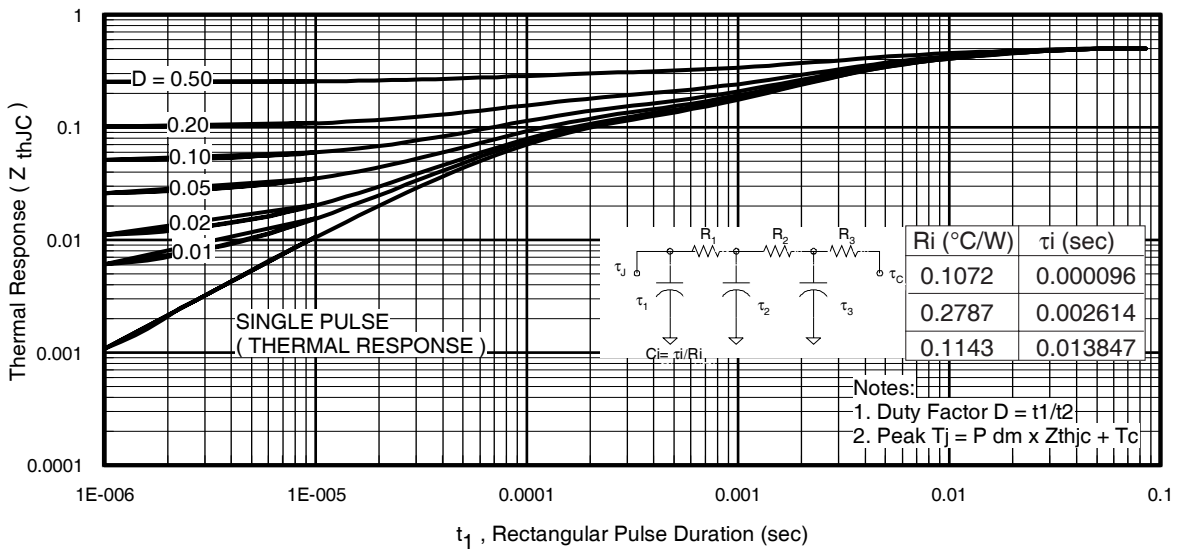

Fig 11. Maximum Effective Transient Thermal Impedance, Junction-to-Case
- ① Repetitive rating; pulse width limited by max. junction temperature. (See fig. 11).
- ② Limited by T_{Jmax} , starting $T_J = 25^\circ\text{C}$, $L=0.026\text{mH}$, $R_G = 25\Omega$, $I_{AS} = 110A$, $V_{GS} = 10V$. Part not recommended for use above this value.
- ③ Pulse width $\leq 1.0\text{ms}$; duty cycle $\leq 2\%$.
- ④ $C_{oss\ eff.}$ is a fixed capacitance that gives the same charging time as C_{oss} while V_{DS} is rising from 0 to 80% V_{DSS} .
- ⑤ This value determined from sample failure population starting $T_J = 25^\circ\text{C}$, $L=0.026\text{mH}$, $R_G = 25\Omega$, $I_{AS} = 110A$, $V_{GS} = 10V$.
- ⑥ This is applied to D²Pak, when mounted on 1" square PCB (FR-4 or G-10 Material). For recommended footprint and soldering techniques refer to application note #AN-994.
- ⑦ R_θ is measured at T_J of approximately 90°C .
- ⑧ Solder mounted on IMS substrate.
$Z_{thJC}(D, t_{av})$ = Transient thermal resistance, see figure 11)